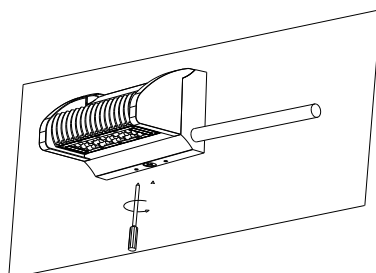

Figure 2-5
5. Tighten the pipe on the luminaire; after installation. tighten the screws.(Figure 2-5)